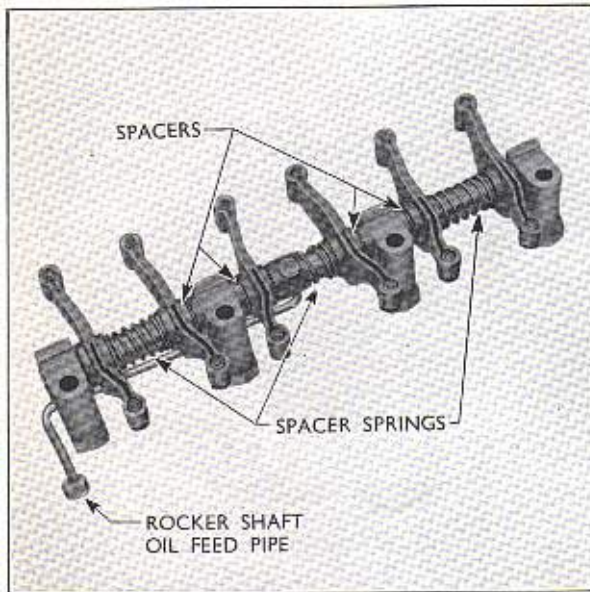

Fig. 1
1. Fit the support brackets, spacer springs, spacers, rocker arms and the oil feed pipe in their correct order, as shown in Fig. 1, taking care to ensure that the stud holes in the rocker shaft support brackets are on the left when viewing the rocker shaft from the front. (Opposite end to the oil feed pipe.) The rocker arms are right- and left-handed and should be fitted with their "seis" positioned as shown in Fig. 1.